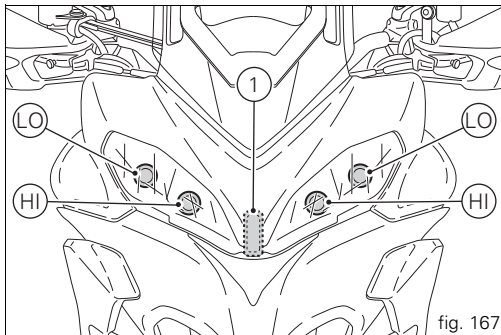

fig. 167
fig. 167 shows the locations of the low beam bulbs (LO), high beam bulbs (HI) and the parking light bulb (1).